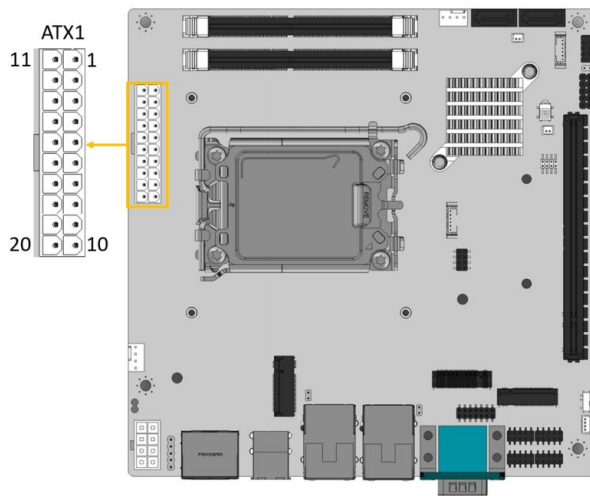

Figure 3-11: Internal Power Connector Pinout Location
- CN Location:** See Figure 3-11